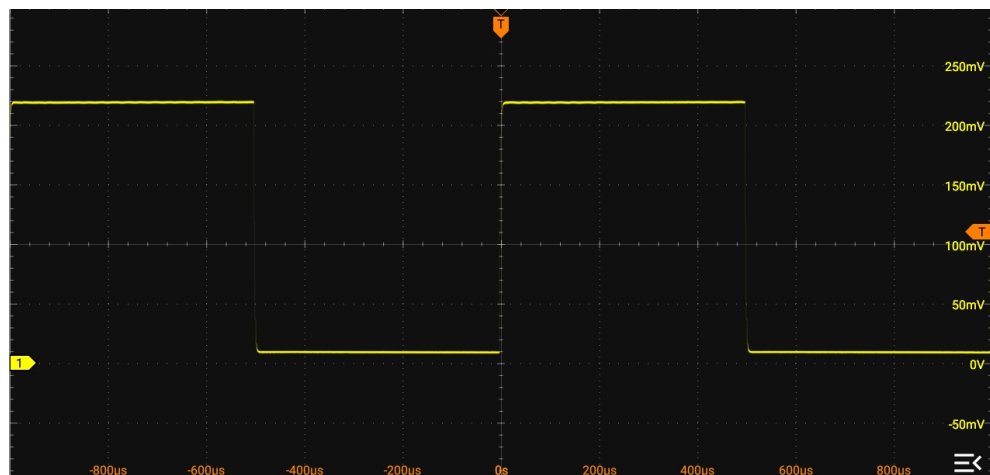

**Figure 4.7 Using the Compensation Signal**
2. Connect the ground alligator clip of the probe to the "Ground Terminal" as shown in Figure 4.7.
3. Use the probe to connect the input terminal of CH1 and the "Compensation Signal Output Terminal" of the probe, as shown in *Figure 4.7*.